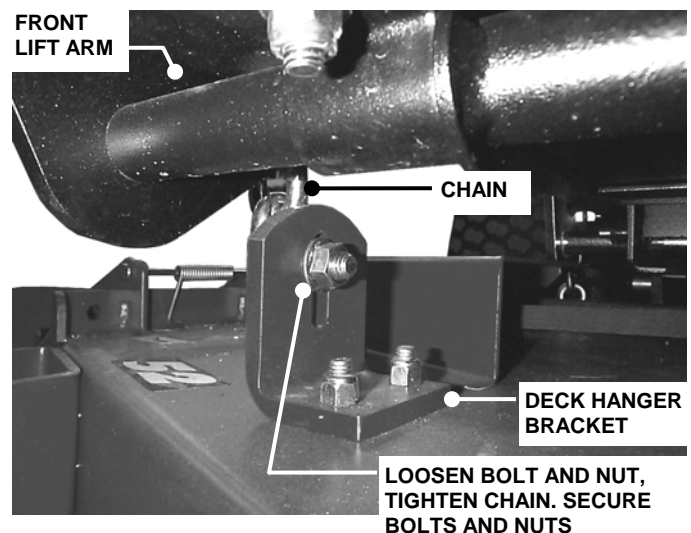
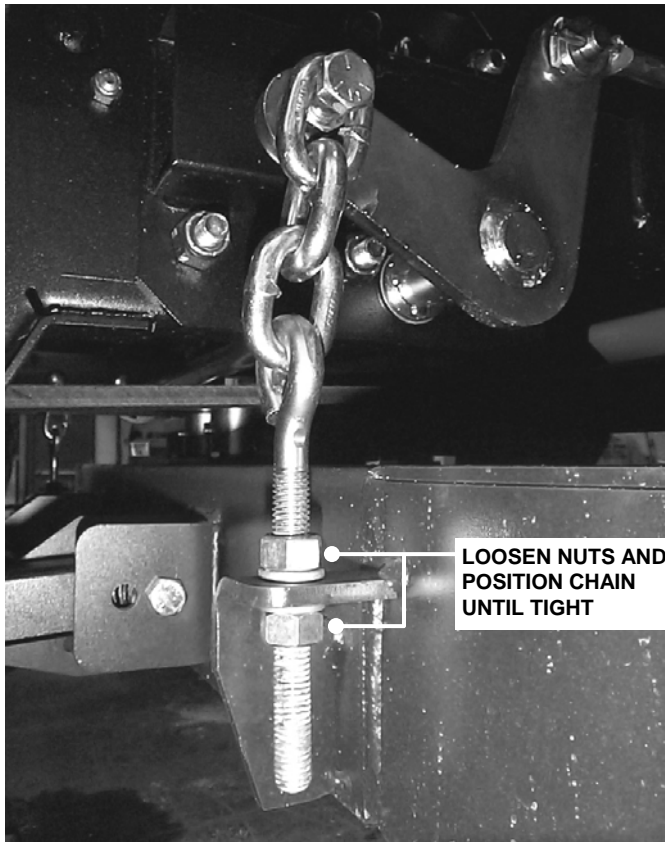

FIGURE 5.5
FIGURE 5.6
6. Loosen the nuts and bolts that secure both front deck support chains. Adjust chains until tight and retighten bolts and nuts. Torque to 20 to 30 ft. lbs. See Figure 5.5.
7. Loosen the nuts that secure both rear deck support eyebolts (slotted brackets on 61, See Figure 5.5). Adjust to remove slack from both rear chains. Tighten nuts securely. See Figure 5.6.